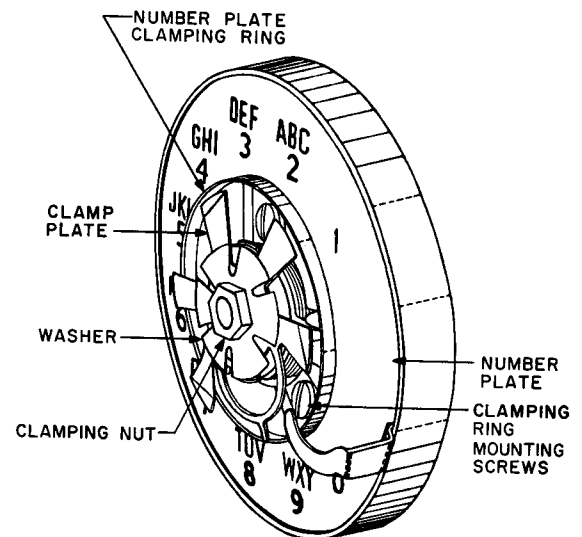

Fig. 19—6-Type Dials With Plastic Fingerwheel Removed
(12) Remove the clamping nut, shown in Fig. 19, with the No. 311 wrench and lift off the washer and clamp plate.
(13) Remove the clamping ring mounting screws with the C screwdriver, and remove the number plate clamping ring and the number plate.
(14) Clean the number plate in accordance with (9).
5. To add procedures covering cleaning number plates of 6-type dials equipped with plastic fingerwheels [3.01 (11) through (16)].
6. To add Fig. 19.